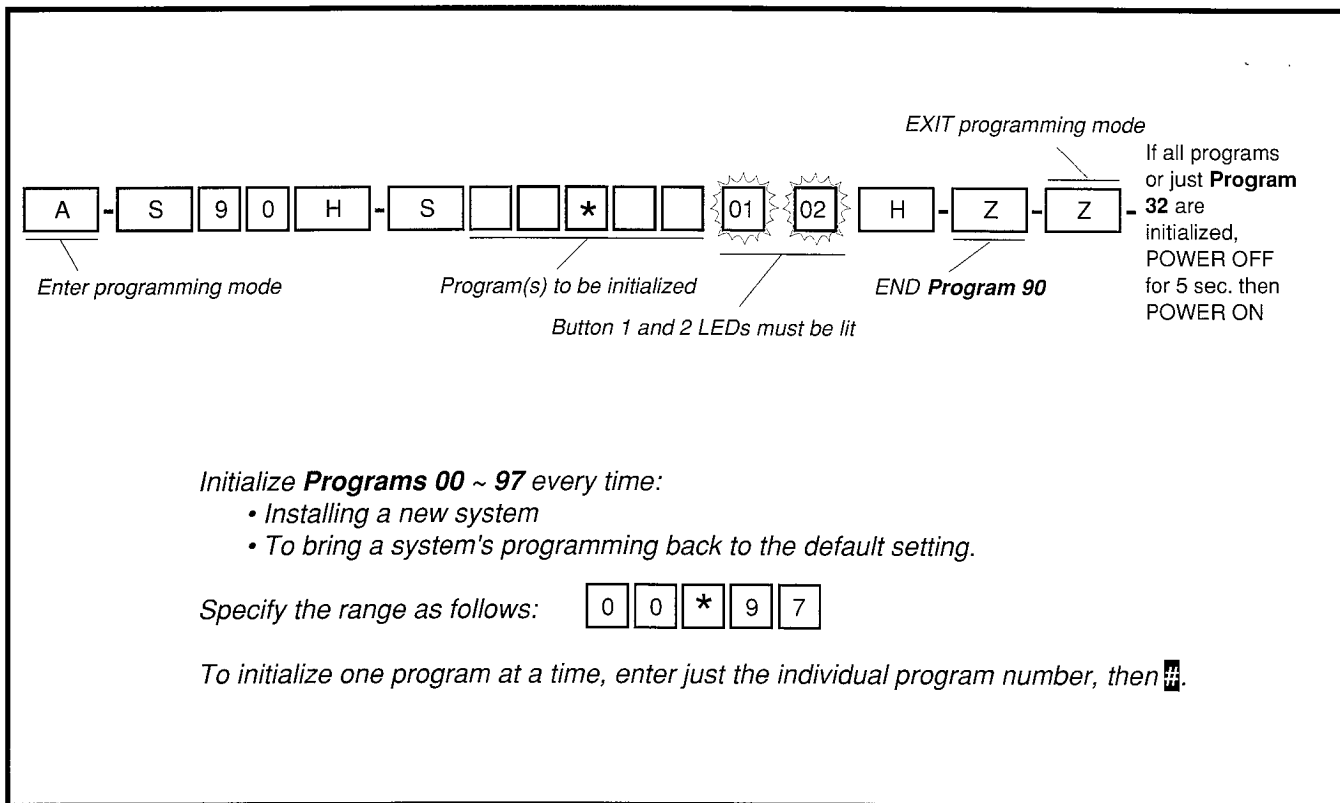

FIGURE 1-2—INITIALIZING DATA FOR PROGRAMS 00 ~ 97 WITH PROGRAM 90
4.10 Initialize Programs 00 ~ 97 Data with Program 90: Always initialize a system when it is first installed, or when its software must be brought to the default configuration. If only minor programming changes are being added to a system in which the programming is basically correct, skip this section. Follow the steps in Table 1-C and Figure 1-2.